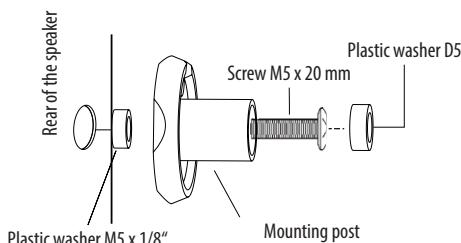

Figure 1
- Most of the so-called satellite speakers require the use of an M5 × 20 mm screw in combination with a M5 × 1/8 "plastic washer. The plastic washer is used as a spacer between the thread and the mounting post (see Figure 1).